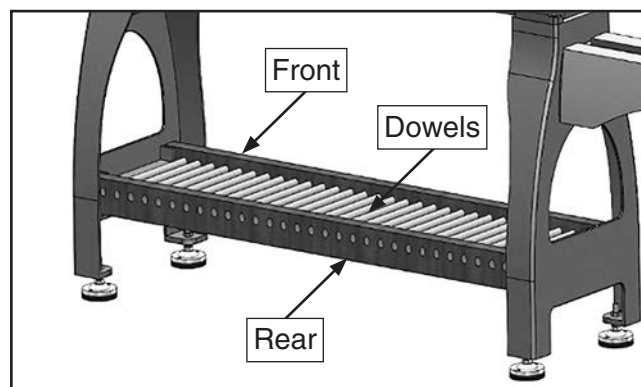

Figure 20. Boards and dowels installed in shelving option three.
2. In one 2x6, drill 5/8" holes all the way through board. This board will be installed on rear of lathe (see **Figure 20**). On other 2x6, drill holes only deep enough to secure dowel rods. This board will be installed on front of lathe.